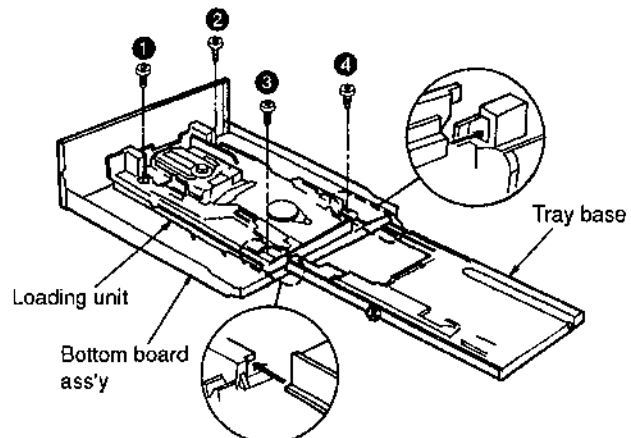

Fig.1
1. Install the loading unit on the bottom board ass'y and secure it with 4 screws ①~④. (See Fig.1)
2. Install the tray base on the loading unit. (See Fig.1)